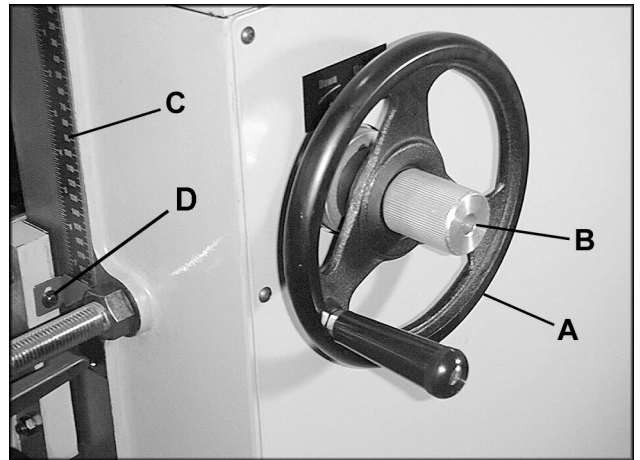

FIGURE 3
Depth of cut is controlled by raising or lowering the table. This is done by using the handwheel (A), shown in Figure 3.
1. Loosen the lock knob (B).
2. Raise or lower the table to the desired position (clockwise to raise). One revolution of the handwheel equals 1/16". The distance can be read on the scale (C).
3. Retighten lock knob (B).
4. The pointer (D) can be adjusted if the scale should ever need recalibrating.